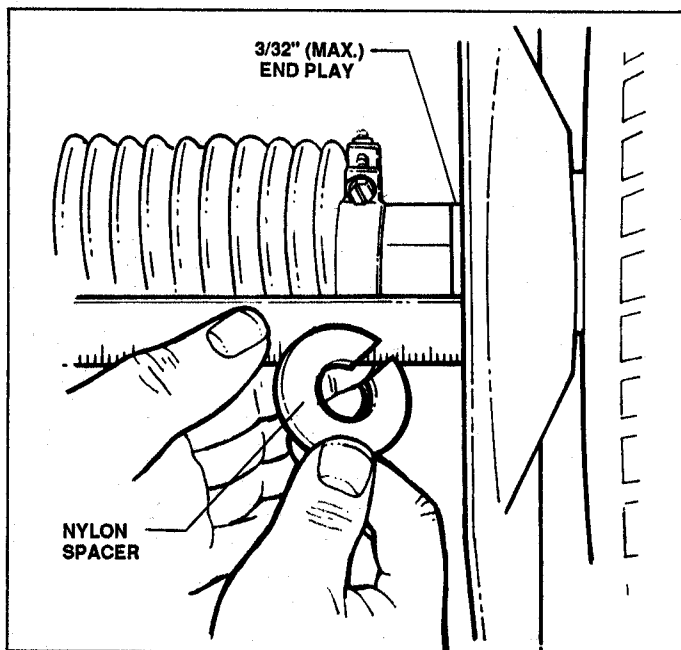

FIGURE 4.34
MAKE SURE TO SPACE END PLAY PROPERLY, THEN ON **EXTRA TOUGH Models**, TIGHTEN LOCKING COLLARS IN DIRECTION OF WHEEL ROTATION. Refer to Figure 4.34.
1. INSTALL SPLIT NYLON SPACERS UNTIL 3/32" CLEARANCE IS ATTAINED. See Figure 4.34.